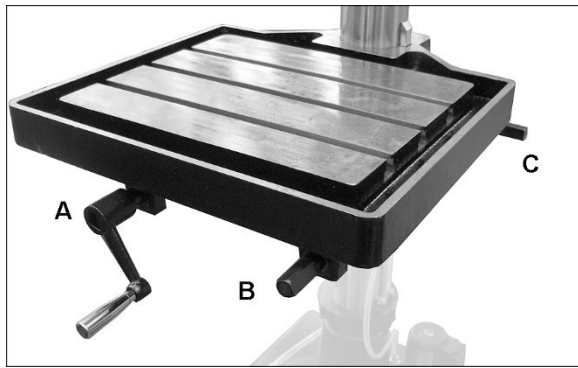

Figure 8-2: table adjustments
4. Loosen table lock by placing handle on crankshaft (see A, Figure 8-2) and rotating handle counterclockwise.
5. Raise table by placing handle on crankshaft (B or C, Figure 8-2) and rotating clockwise. Place 2x4 vertically between table and head, as